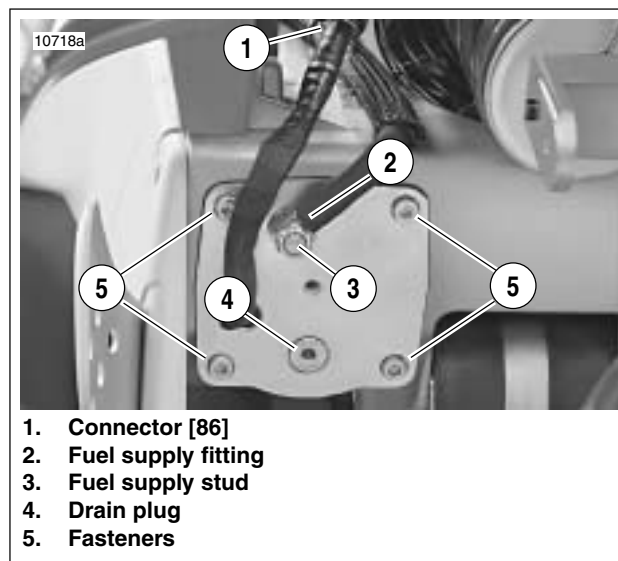

Figure 4-95. Fuel Pump Installation
- a. See Figure 4-95. Disconnect the 4-place fuel pump connector (1) [86]. Connector is located inside the left rear portion of the fuel tank/frame.